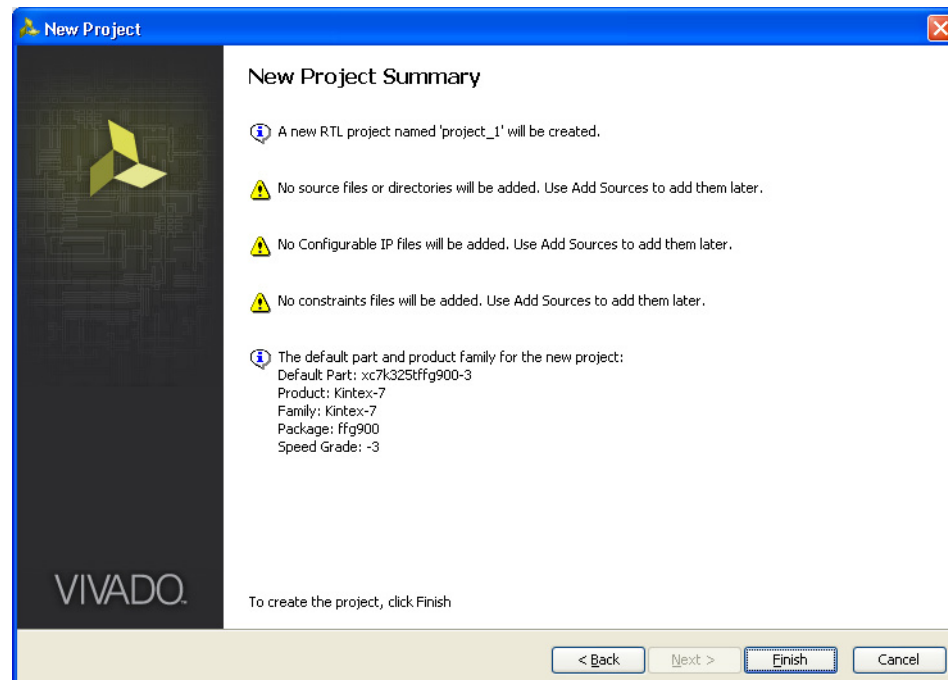

Figure 5-11: New Project Summary
- Click **Next** to open the New Project Summary page (Figure 5-11). This includes the summary of selected project details.